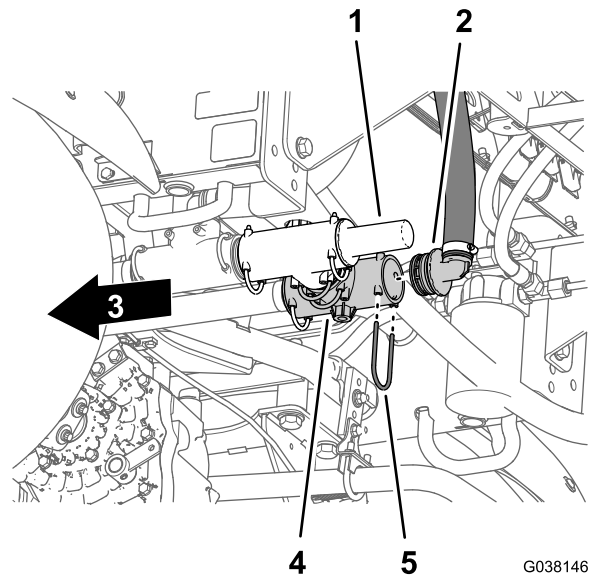

Figure 23
1. At the back of the machine, remove the retainer that secures the 90° barbed fitting of the return hose to the T-fitting located inboard of the pressure-relief valve (Figure 23).
2. Remove the 90° barbed fitting from the T-fitting (Figure 23).